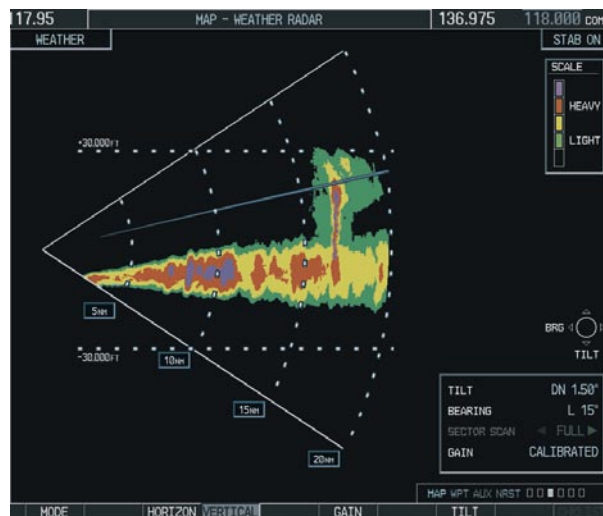

Figure 10-31 Vertical Scan Display
- 3) Select the **VERTICAL** Softkey. A vertical "slice" of the selected area will now be displayed (Figure 10-31).